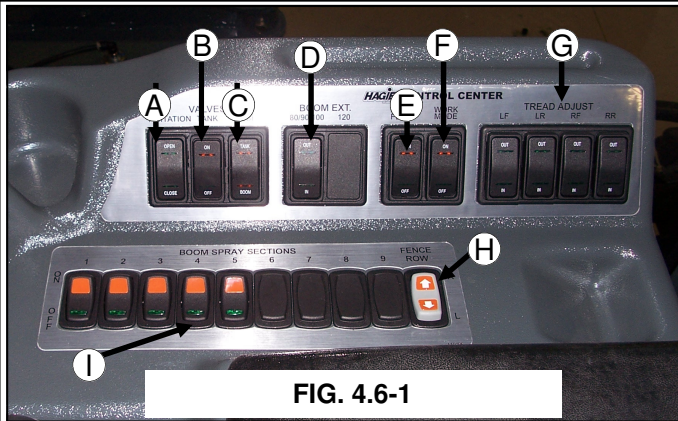

FIG. 4.6-1
**AGITATION SWITCH-** The agitation switch (fig. 4.6-1, item A) controls the rate of flow through the sparge system. For more information on the agitation system, refer to OPERATING SYSTEMS section D on the Spray Systems.
**TANK SWITCH-** The tank switch (fig. 4.6-1, item B) controls the solution tank valve. This switch must be on to spray. For more information on the
**RINSE SWITCH-** The rinse switch (fig. 4.6-1, item C) is used when you wish to rinse the solution tank or the booms. For more information on how to use the rinse system, refer to OPERATING SYSTEMS section F on the rinse system.
**BOOM EXTENSION SWITCH-** Boom extension (fig. 4.6-1, item D) switches are used when folding and unfolding the booms. Refer to OPERATING SYSTEMS section C on spray booms.
**WORK MODE SWITCH-** The work mode switch (fig. 4.6-1, item F) is a safety switch. There are systems connected to this switch that will not function if the switch is not ON and this switch can not be turned on if certain conditions exist. You can not turn the switch on if the machine is not in neutral. The switch controls the functions of the spray system and the booms. This was set up to protect you, the operator, and others from accidentally engaging the spray system while transporting. Be sure that this switch is on before you intend to engage the spray system.
**TREAD ADJUST SWITCH-** The tread adjust switches (fig. 4.6-1, item G) are used to hydraulically adjust the tread width. These switches will not do anything if you do not have hydraulic tread adjust. For more information on hydraulic tread adjustment, refer to OPERATING SYSTEMS section C on the hydraulic system.
**FENCE ROW SWITCH-** The fence row switch (fig. 4.6-1, item H) is for the selection of right or left fence row spray nozzle. More information on the fence row can be found in OPERATING SYSTEMS section D on the spray system.
**BOOM SOLUTION VALVE SWITCH-** The boom solution valve switches (fig. 4.6-1, item I) each control a valve located on the transom and the booms. The valves control the flow of solution through the boom. The boom is broken down into 5 sections (3 sections on a 60' boom), the far left tip being the beginning of section one. See section D under OPERATING SYSTEMS on the spray system for more information.